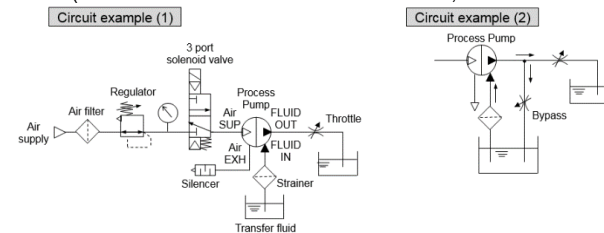

Fig.2. Automatically Operated Circuit Examples
- Tighten fittings to the specified tightening torque. Refer to [Fig. 2] for circuit examples.
<Starting and Stopping> Refer to circuit example (1) [Fig. 2].
- To adjust the flow rate from the discharge port <FLUID OUT>, use the throttle connected to the discharge side. Refer to circuit example (1) [Fig. 2].
- When operating with a discharge flow rate below the specification range, provide a by-pass circuit from the discharge side to the suction side to ensure the minimum flow rate inside the process pump. With a discharge flow rate below the minimum flow rate, the process pump may stop due to unstable operation. Refer to circuit example (2) [Fig. 2] (Minimum flow rates: 56-PA3##0 1L/min, 56-PA5##0 5L/min).